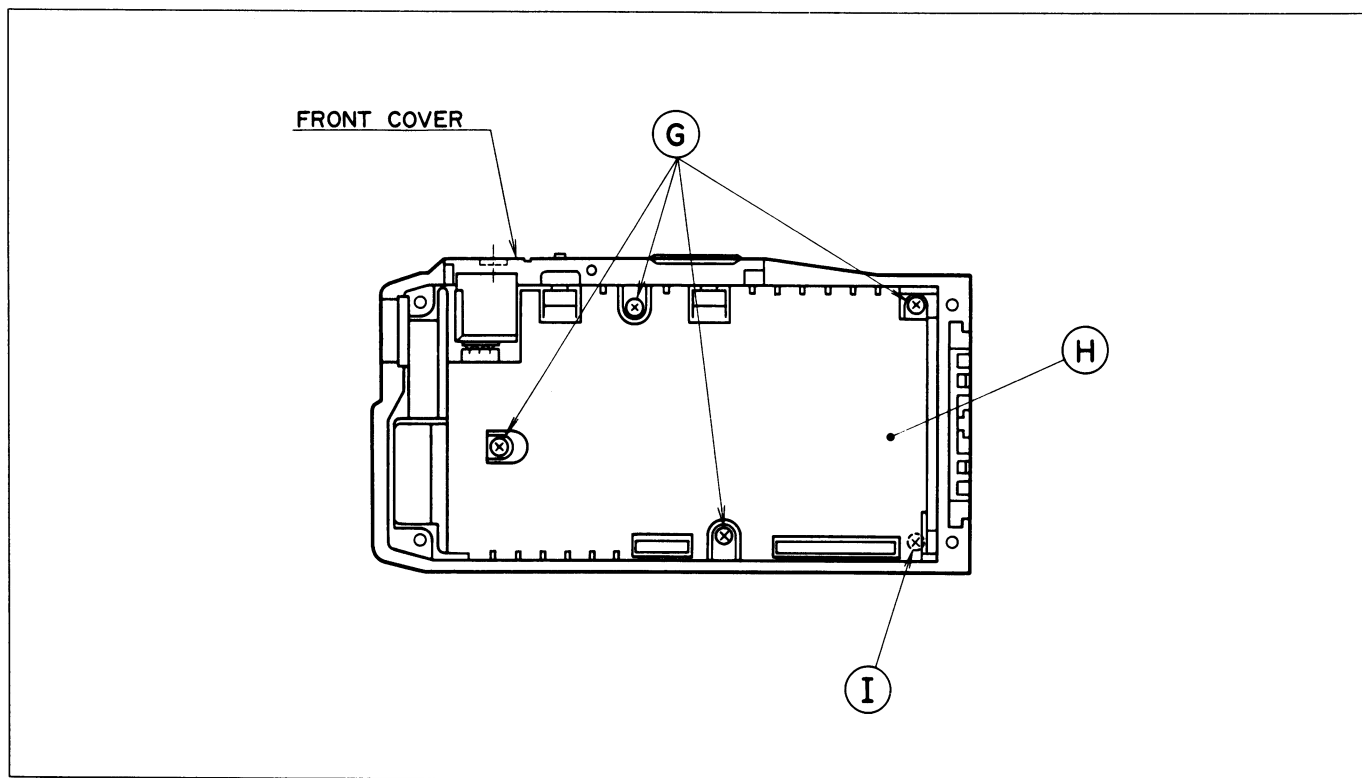

FIGURE 18 - DISASSEMBLY STEP 4
To remove the Controller Board, use the Phillips-head screwdriver and remove the five (5) screws at (G) from the controller board and remove the shield at (H). Remove one (1) screw at (I) (See Figure 18).